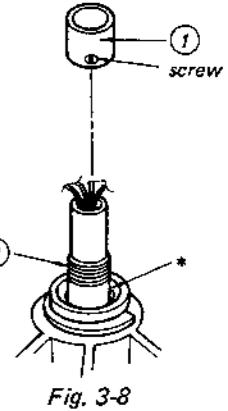

Fig. 3-8
6. Clean the portion marked * in Fig. 3-8.
7. Put fourteen cleaned steel-balls into the portion marked by * in Fig. 3-8.
8. Insert the ⑯ (with a screw side down) and screw up the ⑯ to the extent of ⑰ being movable slightly up and down.
12. If not, readjust the ⑯.